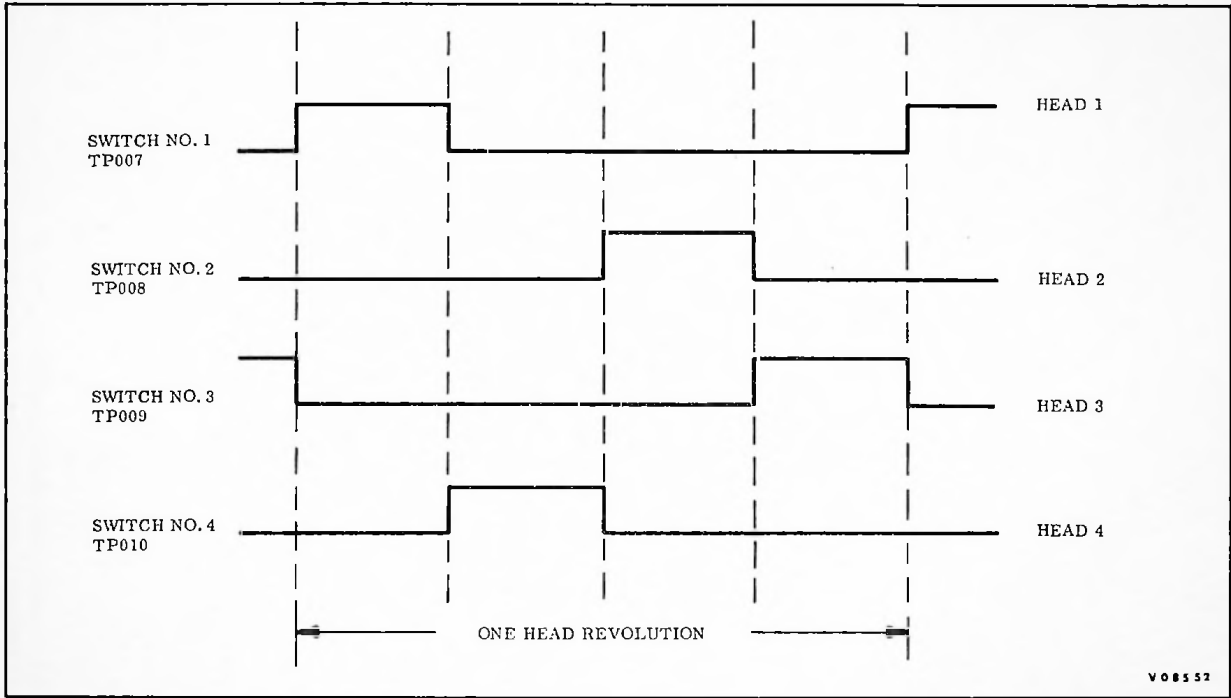

Figure 5.2-2. Head Decoder Input Waveshapes
- f. Connect the probe successively to each system test point indicated in Figure 5.2-2. If signals are out of tolerance, board 6 is defective and must be repaired or replaced.